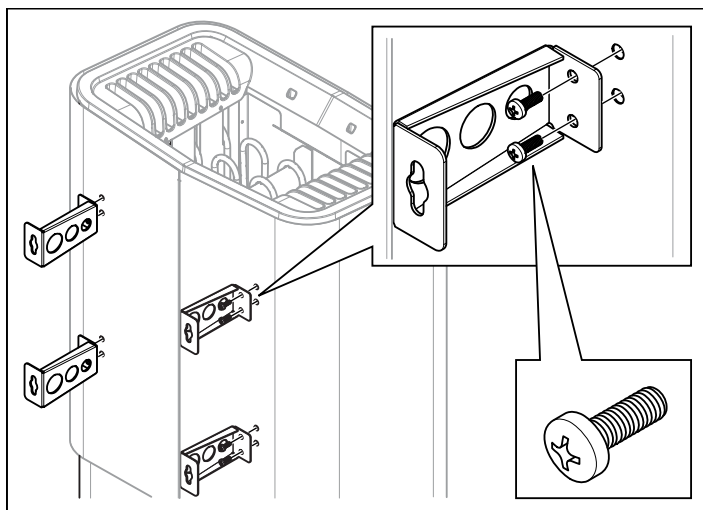

Figure 7: Attaching the brackets to the heater
5. Unscrew the first two screws on the back of the heater and screw one of the four brackets into place. Repeat the procedure until all of the brackets are fitted see Figure 7, Page 7.